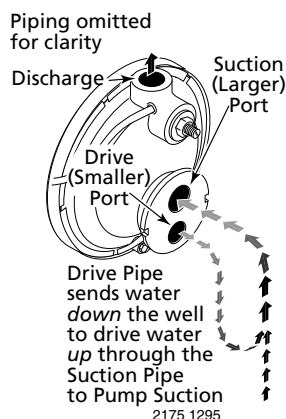
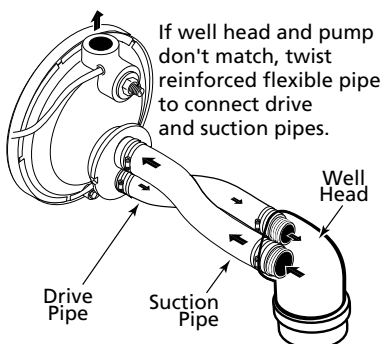

Figure 2: Drive and Suction Functions
Figure 3: Reversed Connections to Well
3. If your old pump has the suction pipe (the larger port – see Figure 2) below the drive port, you will need to install flexible pipe between the well head and the pump so that the connection will be correct. (See Figure 3).